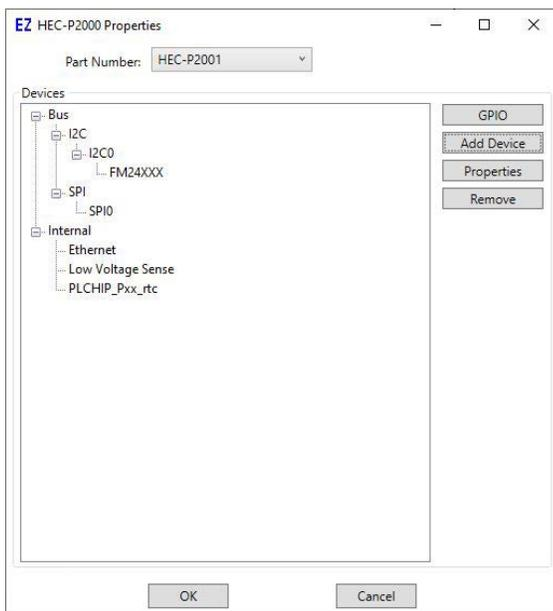

Figure 30-1
- Click the **PROPERTIES** button. The *target's Properties* dialog will open. Refer to Figure 30-1.